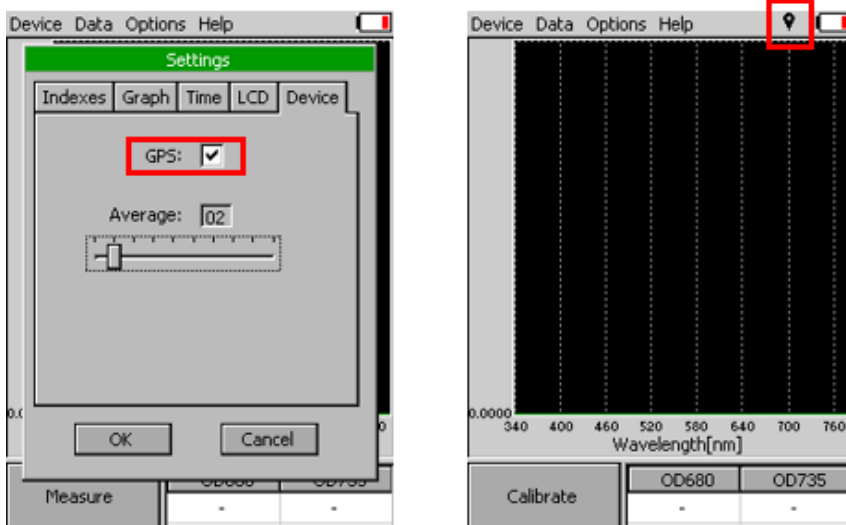

Fig. 39 Activation of GPS modul, GPS icon - active.
- Click on the check box for GPS (Fig. 39)
- Wait until the GPS position is found. The GPS module is ready when the icon of the position flag, in upper menu, stops flashing (Fig. 39).